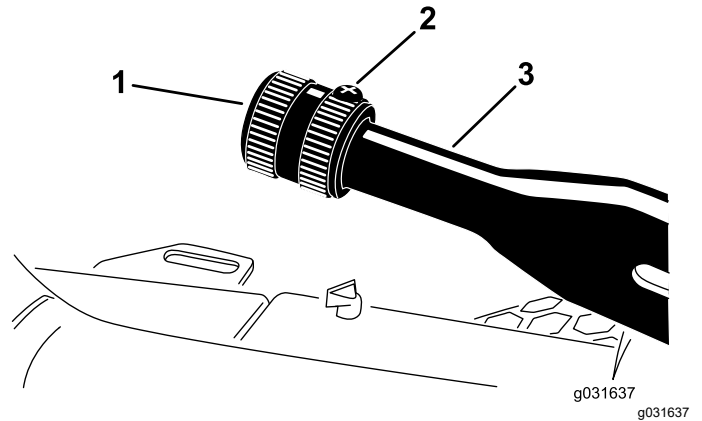

Figure 59
1. Loosen the set screw securing the knob to the parking-brake lever (Figure 59).